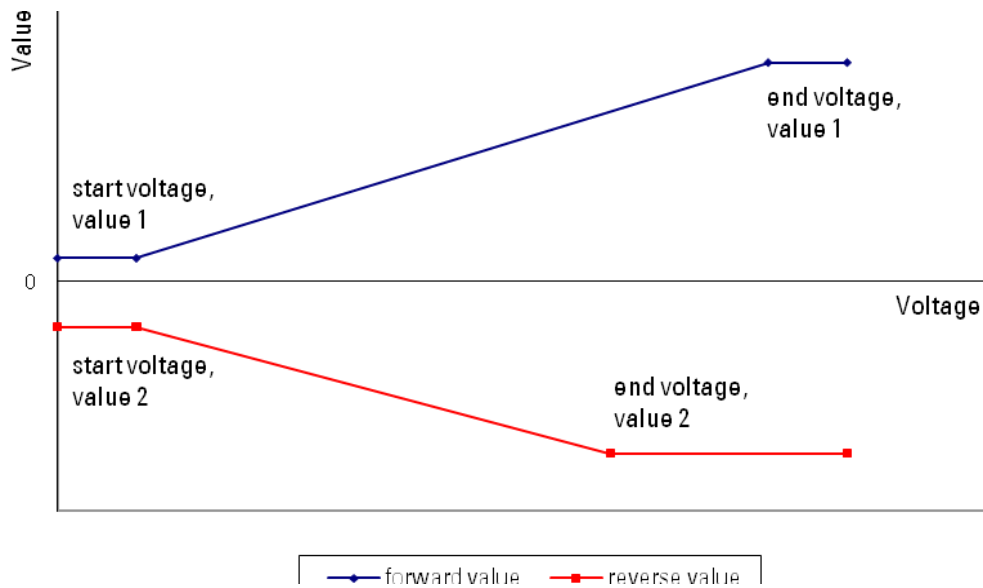
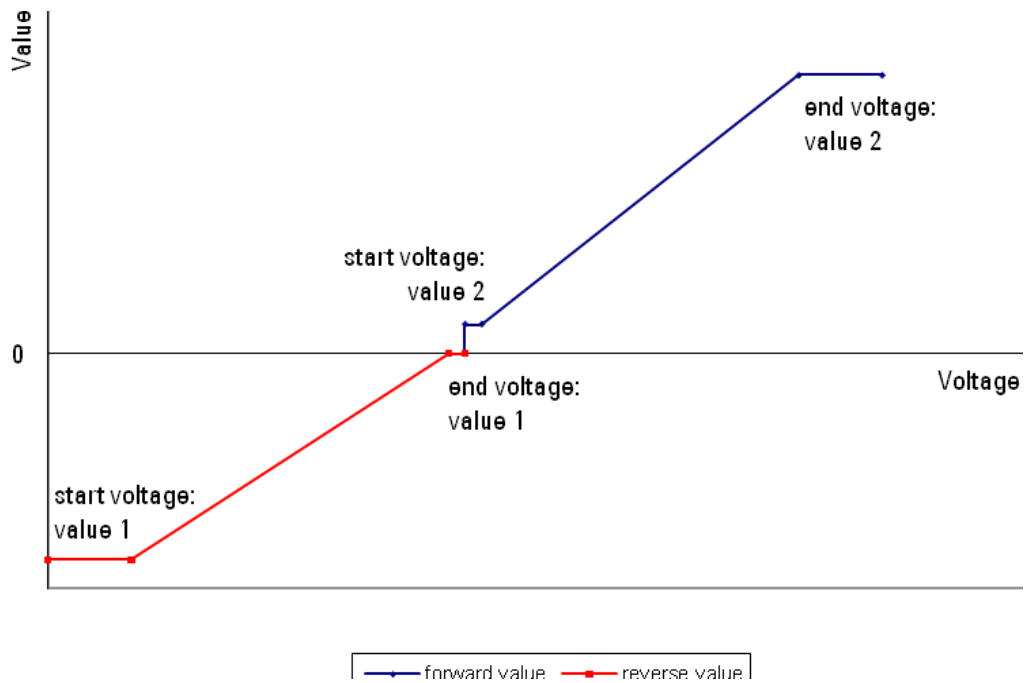

Figure 27 Standard throttle configuration
Figure 28 Directional throttle configuration
- Define the throttle voltage input: this is the relationship between the throttle voltage and the throttle value. Separate relationships can be specified for forward and reverse. Each relationship has two points, a start and an end. The points are configured differently for standard and directional throttles as shown in Figure 27 and Figure 28 respectively.